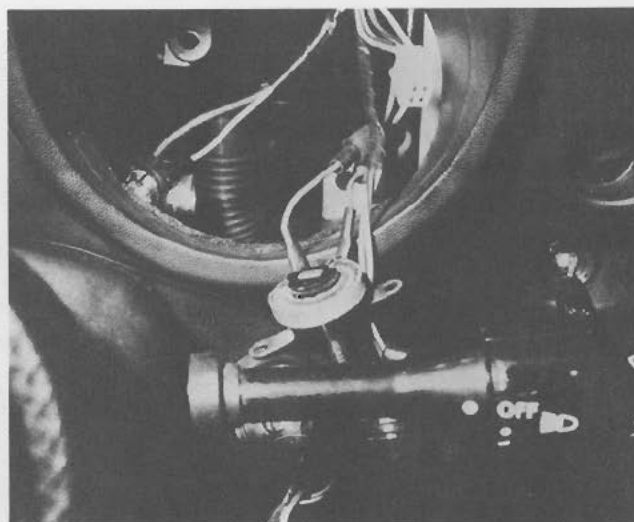

Figure IV-3. Removal of Instrument Panel Illumination Control (Rheostat)
- d. Lift the rheostat from position and bring to view through the tachometer opening (see Figure IV-3). Replace a defective rheostat with (Part No. 25950-E 4600) Assembly-resistor instrument lamp.